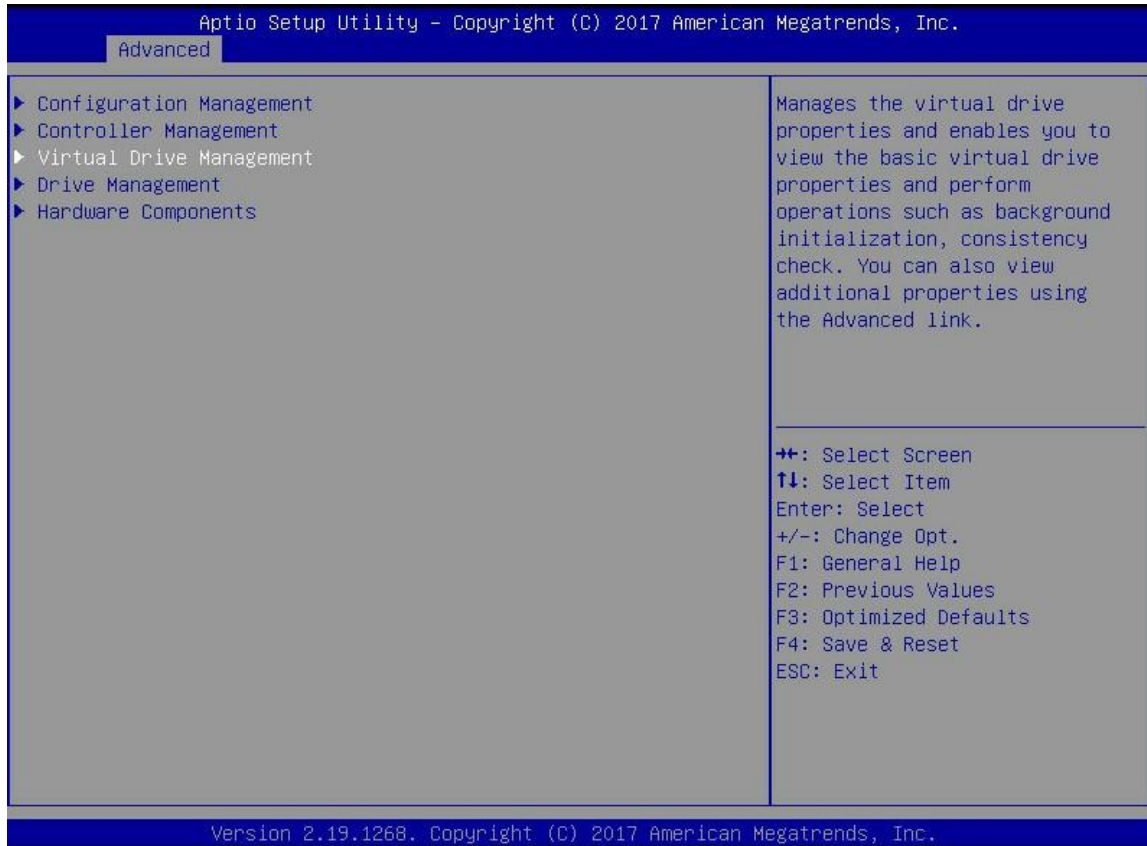

Figure 6-41
- a) As shown in figure 6-41, select virtual drive management in the raid card configuration interface and press enter.